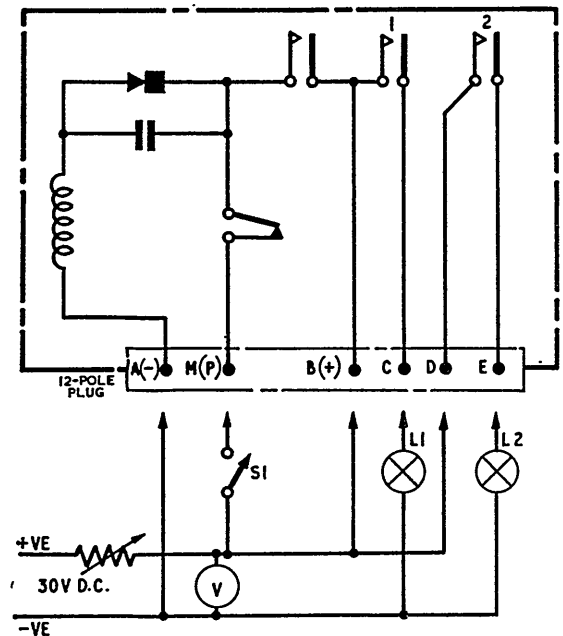

Fig. 1. Switch, Type D8148, circuit diagram and test circuit
1. This time delay switch has four pairs of circuit contacts, the circuit diagram (fig. 1) shows the switch internal wiring and the associated test circuit. The total motor run and circuit contact timing is detailed in para. 3.